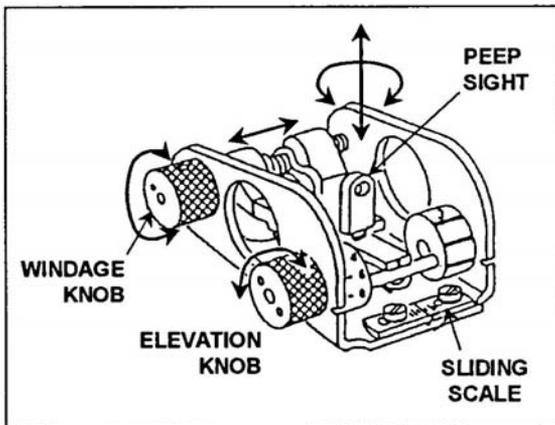

Figure 071-312-4030-1. Sliding scale on sight
b. Windage. Rotate the windage knob toward the muzzle until the peep sight is completely to the right and then rotate the windage knob back toward the buttstock 12 clicks to the left. This will place the peep sight in the approximate center of the sight (figure 071-312-4030-1).